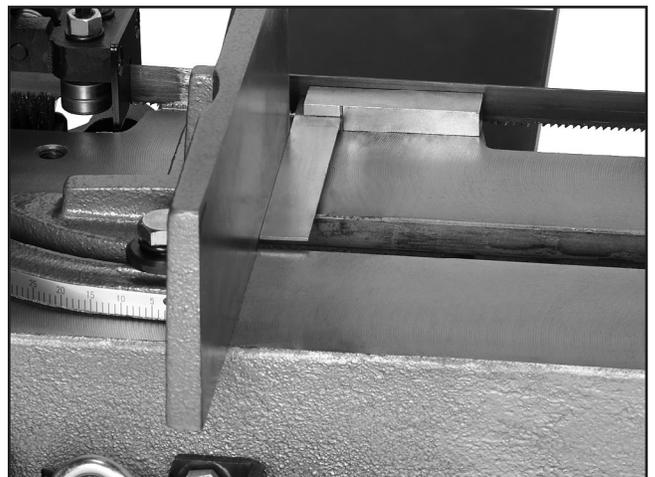

Figure 14. Squaring vise to blade.
2. Use the scale as a guide to set your angle or use a machinist square to square the blade to the vise as shown in **Figure 14**.